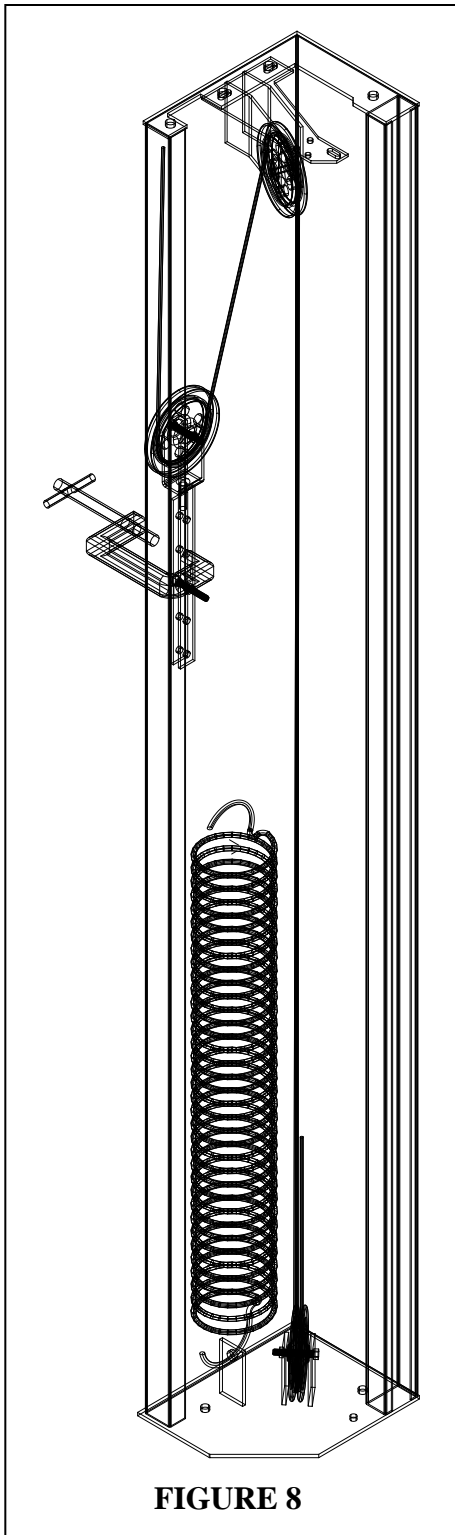

FIGURE 8
- C. Clamp the intermediate pulley bracket in an upright position with center hole placed at the pre-stretch point (**Figure 8**).